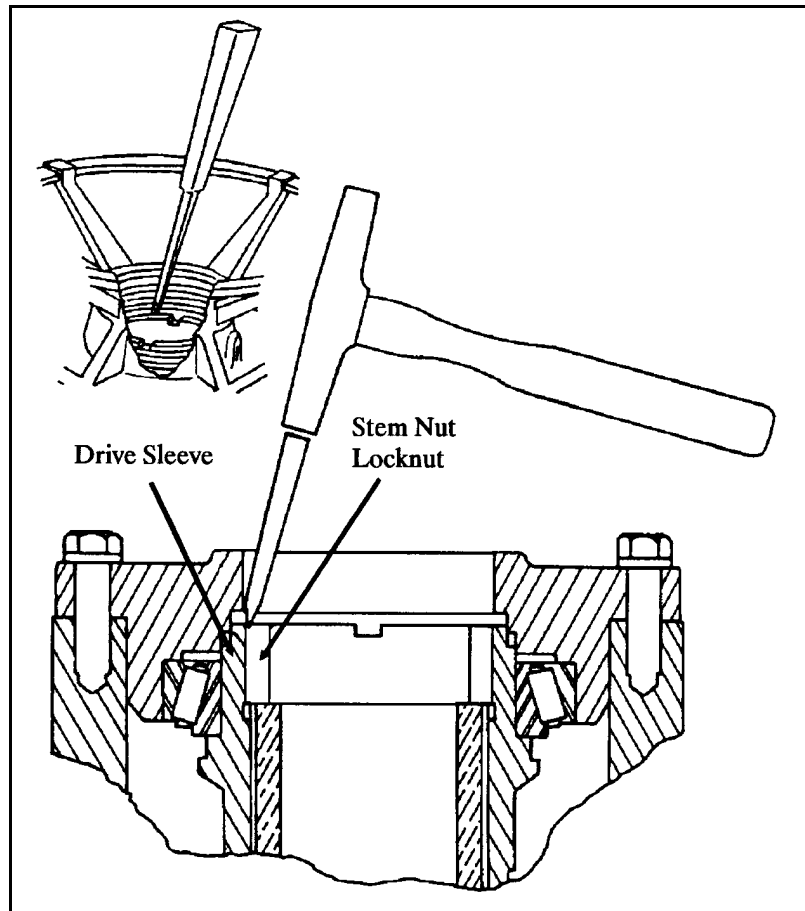

Figure 4-56 Locknut Stacking
- g. Install the stem nut locknut tight against the stem nut and stake in place to prevent loosening. (Figure 4-56)